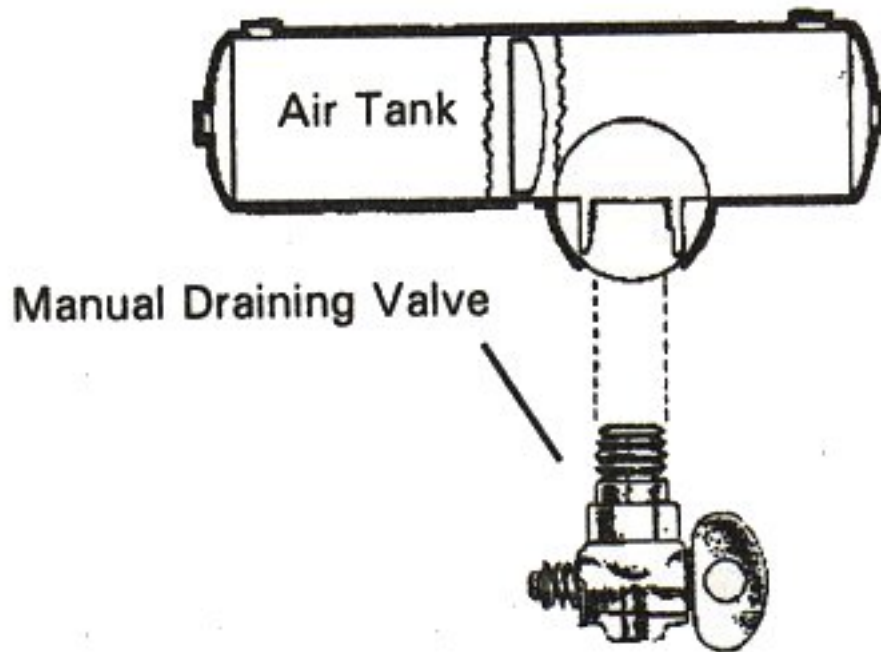

Figure 5-1
- Manually operated by turning a quarter turn, shown in Figure 5-1, or by pulling a cable. You must drain the tanks yourself at the end of each day of driving.